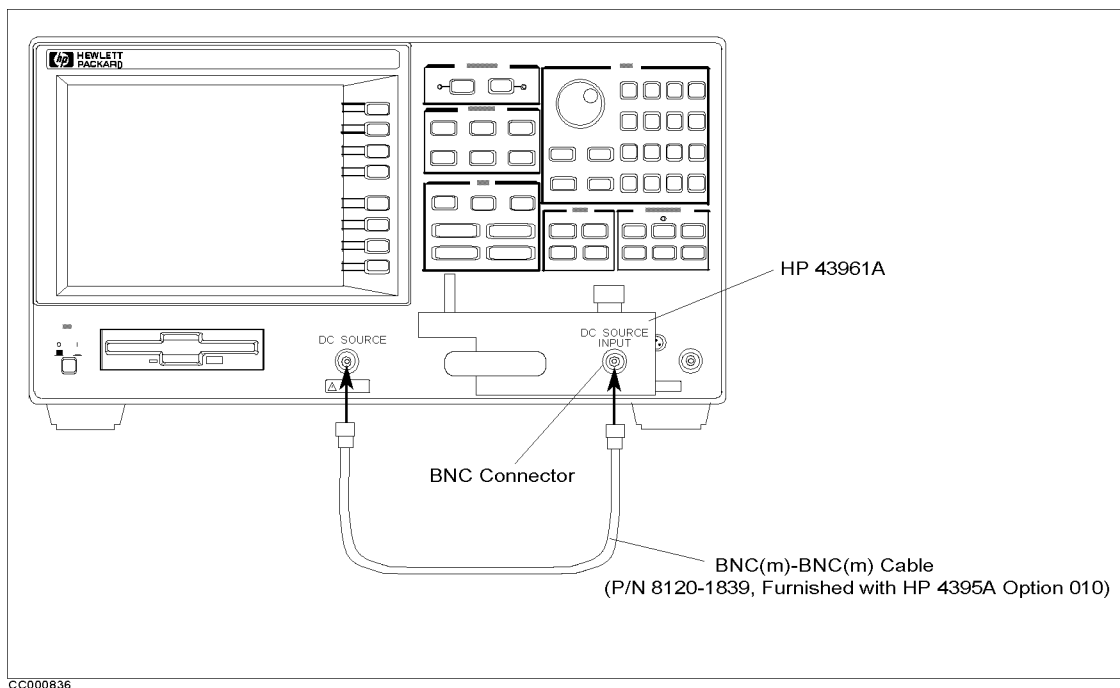

Figure 8-29. Connecting DC SOURCE to Impedance test kit
2. Connect a BNC cable between the DC SOURCE port and the impedance test kit's DC SOURCE INPUT port (see Figure 8-29).